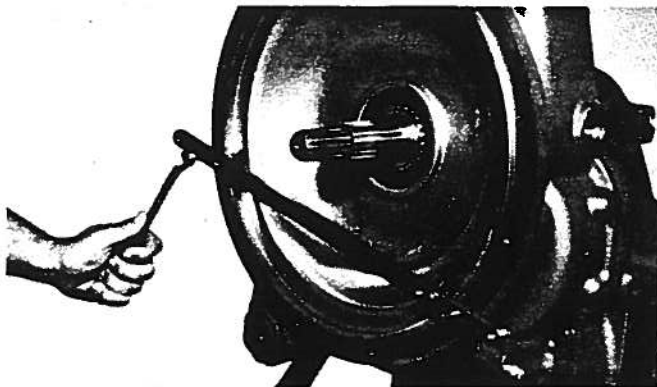

Figure 5-38. Oil Baffle Removal
- g. Remove turbine (14) and retaining ring (15).
- h. Remove retaining ring (16), reaction member (17), and hub bearing spacer (18).
- i. Remove impeller (19) with impeller hub gear (20), screw (21), lock tab (22), and O-ring (23). Disassemble these items if necessary.
- j. Using oil baffle puller holes provided, remove oil baffle assembly (24) with oil seal (25), as shown in figure 5-38.